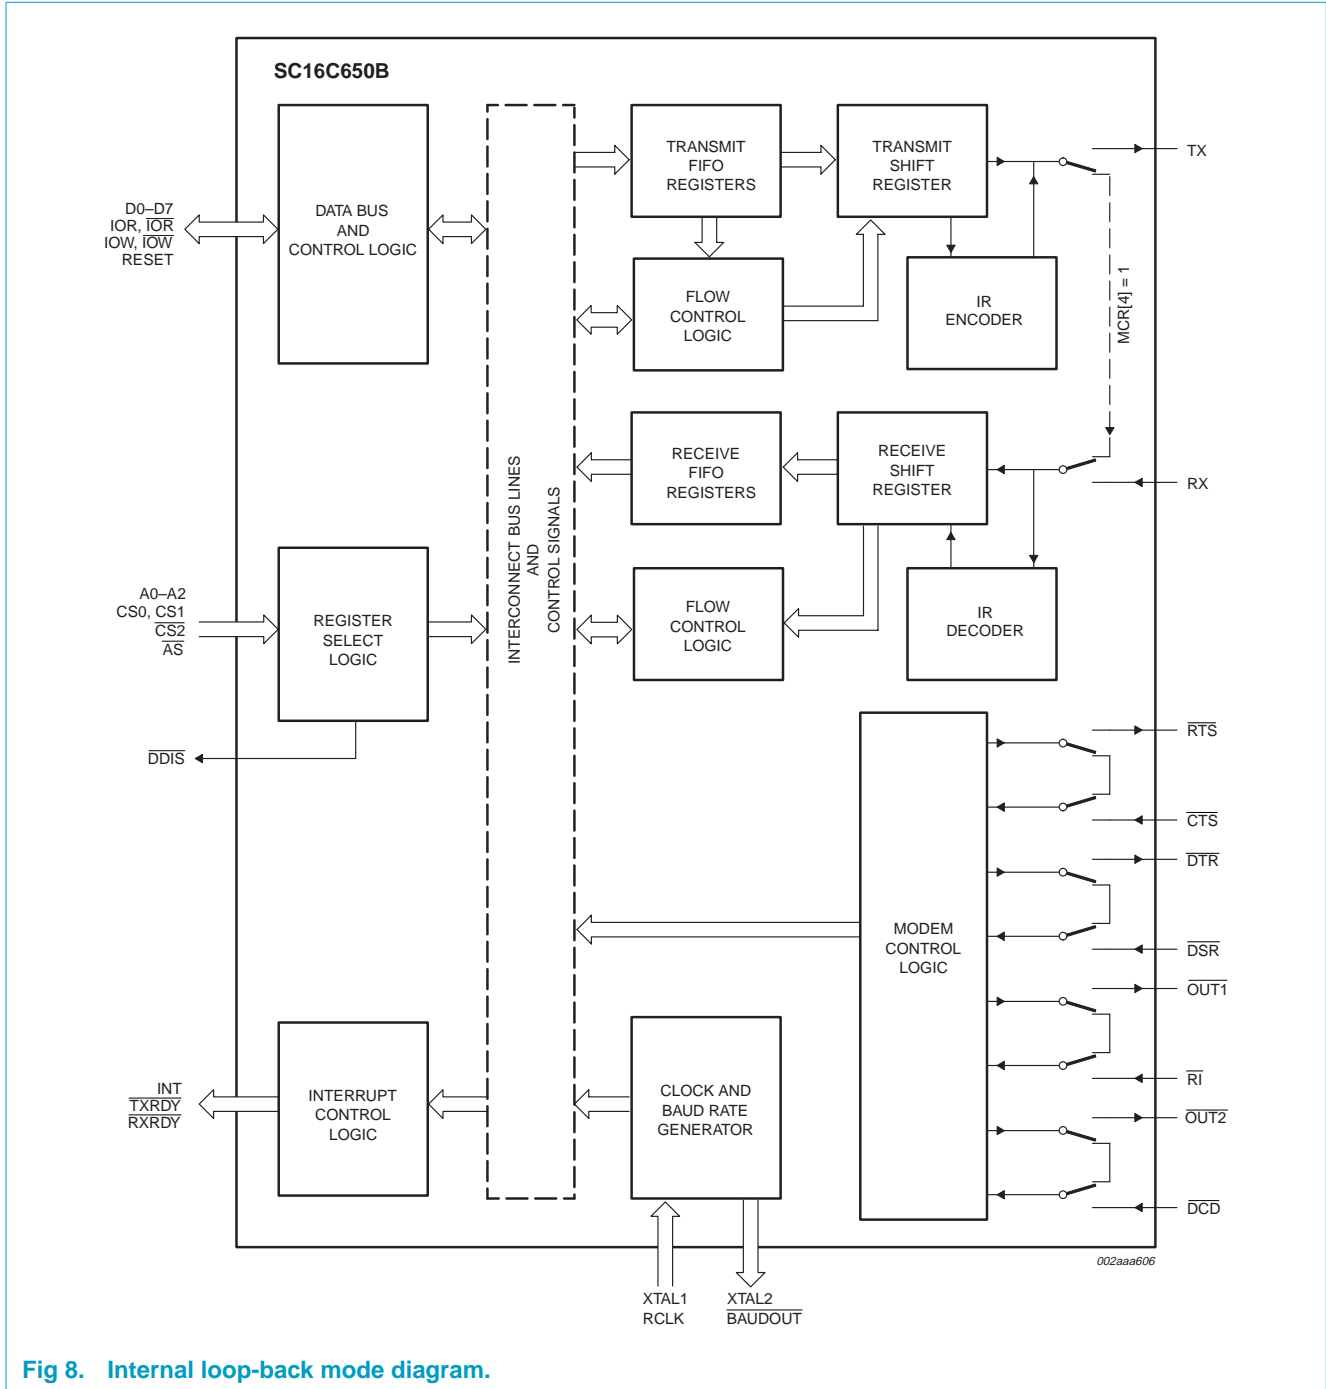

Fig 8. Internal loop-back mode diagram.
The internal loop-back capability allows on-board diagnostics. In the loop-back mode, the normal modem interface pins are disconnected and reconfigured for loop-back internally. MCR[0:3] register bits are used for controlling loop-back diagnostic testing. In the loop-back mode, OUT1 and OUT2 in the MCR register (bits 2:3) control the modem  $\overline{\text{RI}}$  and  $\overline{\text{DCD}}$  inputs, respectively. MCR signals  $\overline{\text{DTR}}$  and  $\overline{\text{RTS}}$  (bits 0:1) are used to control the modem  $\overline{\text{DSR}}$  and  $\overline{\text{CTS}}$  inputs, respectively. The transmitter output (TX) and the receiver input (RX) are disconnected from their associated interface pins, and instead are connected together internally (see Figure 8). The  $\overline{\text{CTS}}$ ,  $\overline{\text{DSR}}$ ,  $\overline{\text{DCD}}$ , and  $\overline{\text{RI}}$  are disconnected from their normal modem control input pins, and instead are connected internally to  $\overline{\text{DTR}}$ ,  $\overline{\text{RTS}}$ ,  $\overline{\text{OUT1}}$  and  $\overline{\text{OUT2}}$ . Loop-back test data is entered into the transmit holding register via the user data bus interface, D0-D7. The transmit UART serializes the data and passes the serial data to the receive UART via the internal loop-back connection. The receive UART converts the serial data back into parallel data that is then made available at the user data interface D0-D7. The user optionally compares the received data to the initial transmitted data for verifying error-free operation of the UART TX/RX circuits.